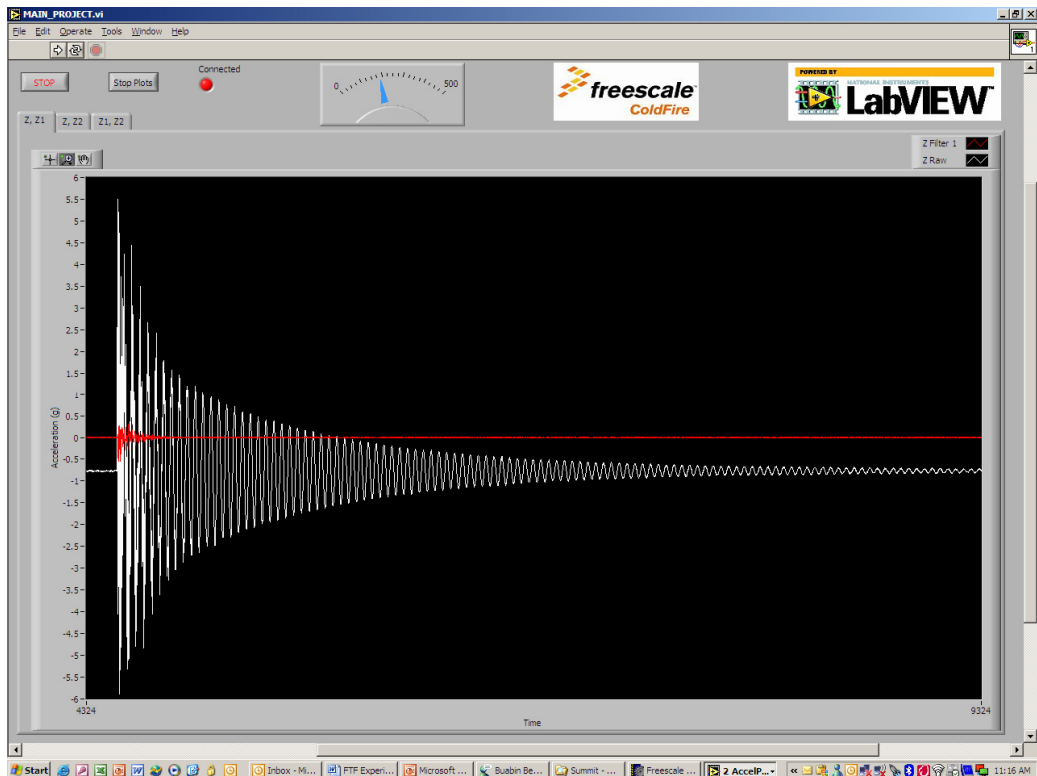

Figure 2a: Measured and High pass filtered signals ($f_c=900$ Hz)
- f. The tab labeled “Z, Z1” displays the raw signal and the high pass filtered signal (Figure 2a), with frequency content greater than 900 Hz.
- k. The effect of time delay on the filtered signals is evident in Figures 2a and 2b.
- e. The tab labeled “Z, Z1” displays the raw signal and the low pass filtered signal (Figure 2a).